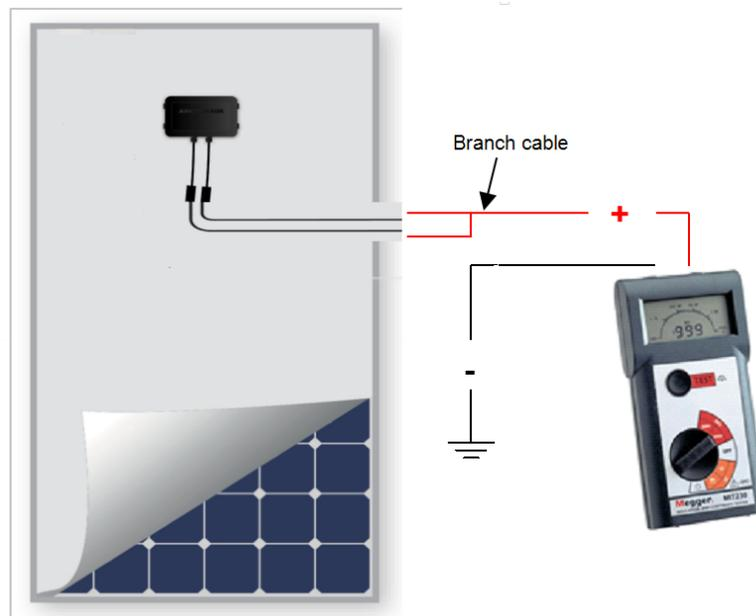

Figure 5: Connecting the insulation tester to the module
- g. Disconnect the branch cable from the power optimizer and connect it to the module (Figure 5).